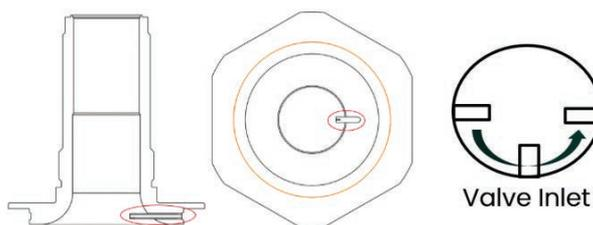

Figure 47: Integral Sense Nozzle Assembly
1. Insert Integral Sensing Tube into nozzle from the exterior of flange. Tighten until the slot in the tube is pointing to the inlet side of the nozzle within a 180 degree window shown in Figure 47.